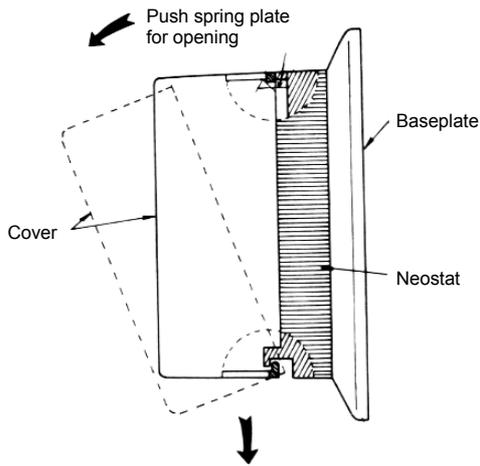
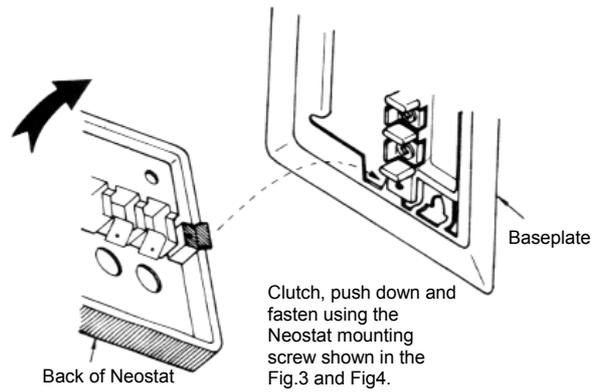

Fig. 5 Attach/detach cover
Fig. 6 Install Neostat
5. Remove the cover. (See Fig. 5) Then, mount the Neostat on the baseplate. See Fig. 6 also.
4. Remove the cover. (See Fig. 5) Then, put the Neostat on the baseplate (See Fig. 6) and mount to the terminal block.